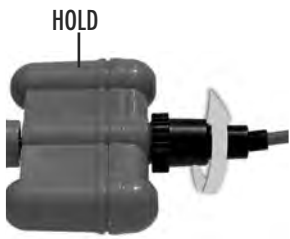

FIGURE S6A
- 3) Grasp the swivel and hand tighten the black collar from the cable (until it is snug) to secure the connection (Figure S6A).